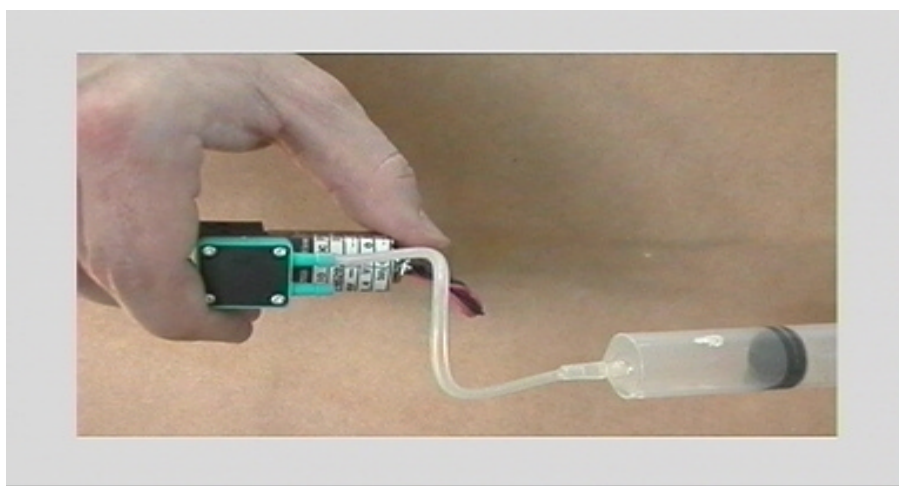

Fig. 4
- Insert a small amount of liquid using a syringe from the disconnected ends in order to wet the membranes (Fig. 4).